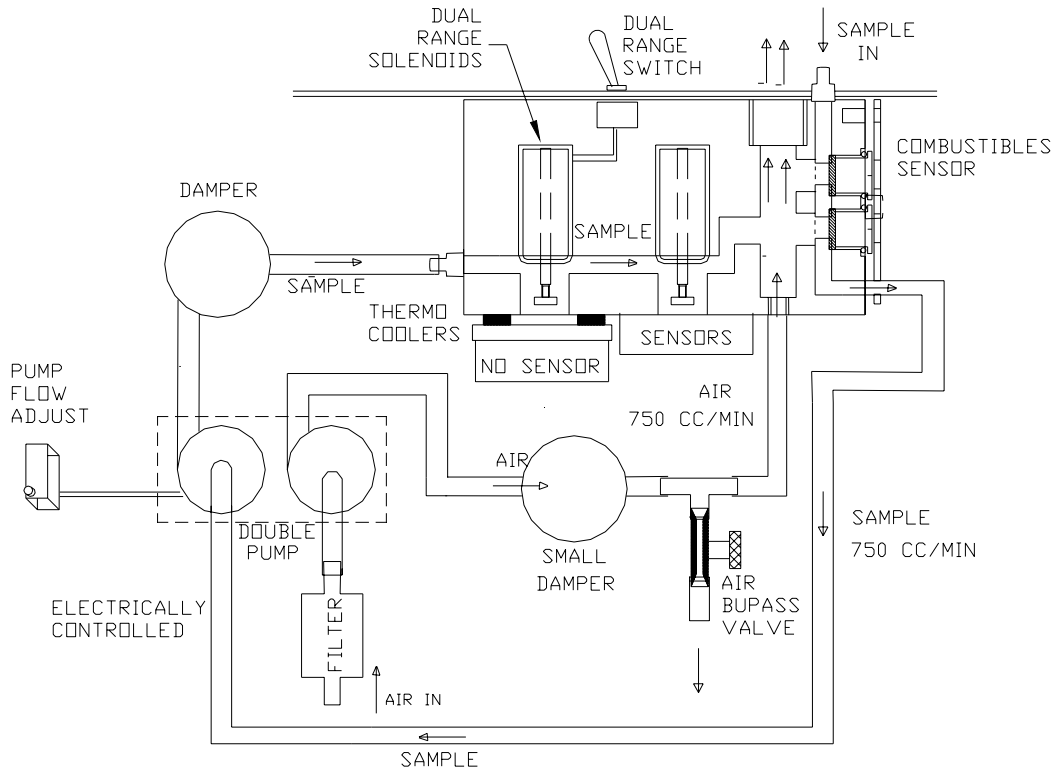

FIGURE 10 COMBUSTIBLES CONFIG.
All gas sensors are located inside the instrument. They are mounted for convenience and easy access on a Teflon coated aluminum rectangular block, which is referred to as the "sensor housing" (see figure 10).
filter is located on the suction side of the "air" pump section (see figures 10 and 10A). It is used as a precaution, when the instrument is used in a dirty environment. The other filter is mounted on the sensor housing to prevent dirt particles from reaching the pump, if the ENERAC is operated without the probe connected.
- d. **SAMPLE FLOW ADJUST POTENTIOMETER.** This is a small screw driver multiple turn potentiometer located on the printer circuit board as shown in figure 10.
- i. **The dual range switches.** The ENERAC model 3000E is equipped with the dual range switches for carbon monoxide, nitric oxide and sulfur dioxide. *The dual ranges of the sensors are listed in Table 1.* Figure 10 shows the location of the dual range switches on the ENERAC's face plate.
- vii. **COMBUSTIBLES SENSOR.** (Figure 10)